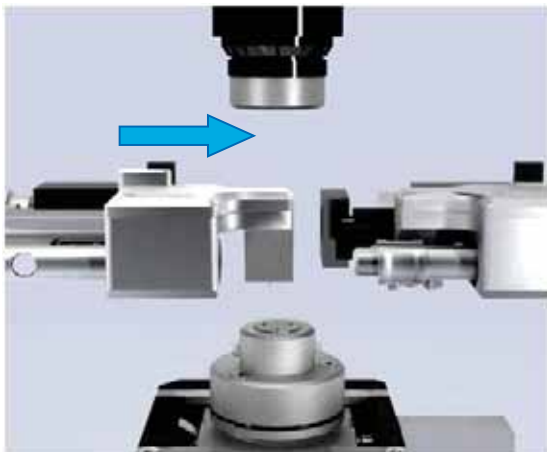

Fig. 1-4. STM head in working position
- Working position (Fig. 1-4, Fig. 1-5);